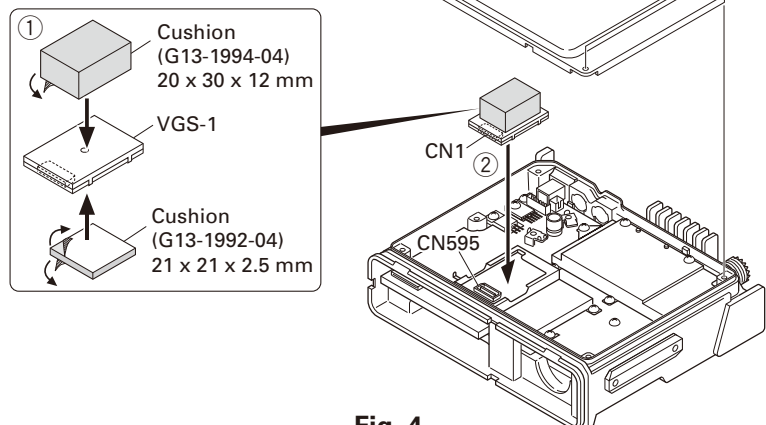

Fig. 4
2. Attach two cushions to VGS-1 as shown in Figure 4. (1)